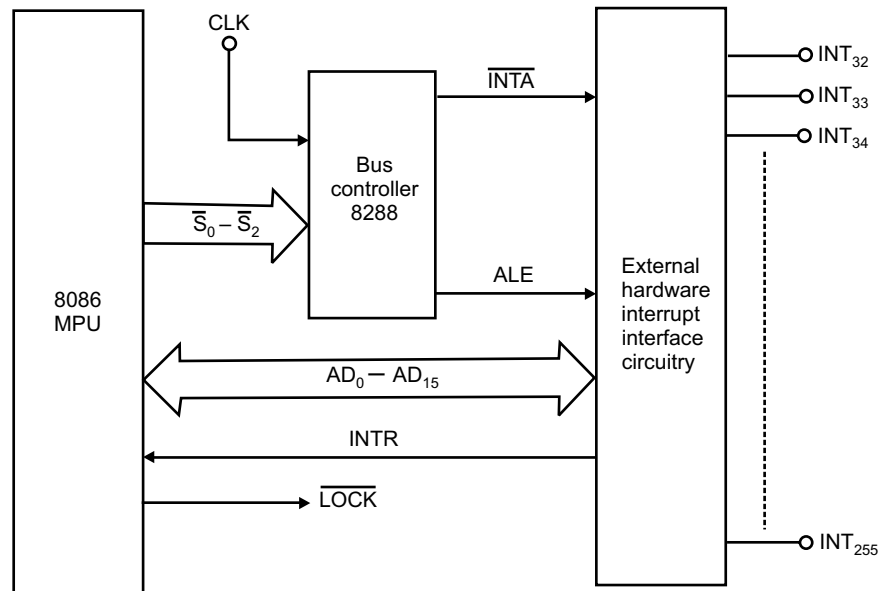

Fig.18.6: Maximum-mode 8086 system external hardware interrupt interface
- (b) The scheme of interconnections of Max-mode 8086 system external hardware interrupt interface is shown below in Fig. 18.6.